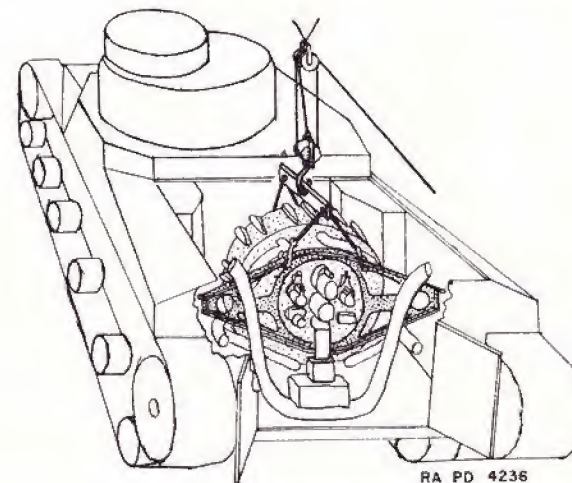

FIGURE 29.—Hoisting of engine, end view.
b. *To remove engine* (see figs. 29 and 30).—(1) Open master switches beneath turret.
(2) Shut off all gasoline shut-off valves inside and outside hull. Remove outside handles.
(3) Remove bolts holding armor plates over engine ($\frac{7}{8}$ -inch wrench). Open engine doors.
(4) Remove grill from front edge of armor plates over engine ($\frac{9}{16}$ -inch socket).
(5) Remove cap screws holding shrouding to front section of armor plate ($\frac{9}{16}$ -inch wrench).
(6) Attach sling and remove armor plates with A-frame.
(7) If necessary, detach Homelite exhaust pipe from clamps.